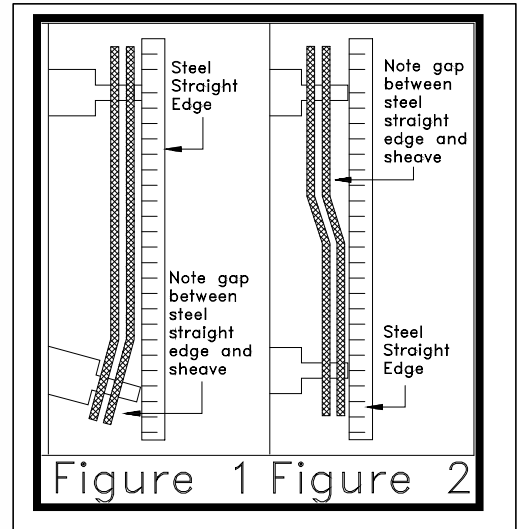

Figure 1 Figure 2
- a. Line up the straight edge along the outside face of the motor and blade shaft pulley as shown in Figure 1.
- a). The motor pulley and the blade shaft are not parallel. [See figure 1]